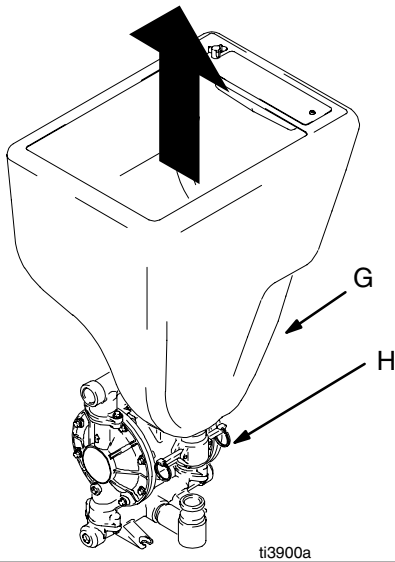

Fig. 1
1. To remove hopper (G), release the latches on each side of coupler (H).
2. Lift hopper straight up, off unit. See Fig. 1.